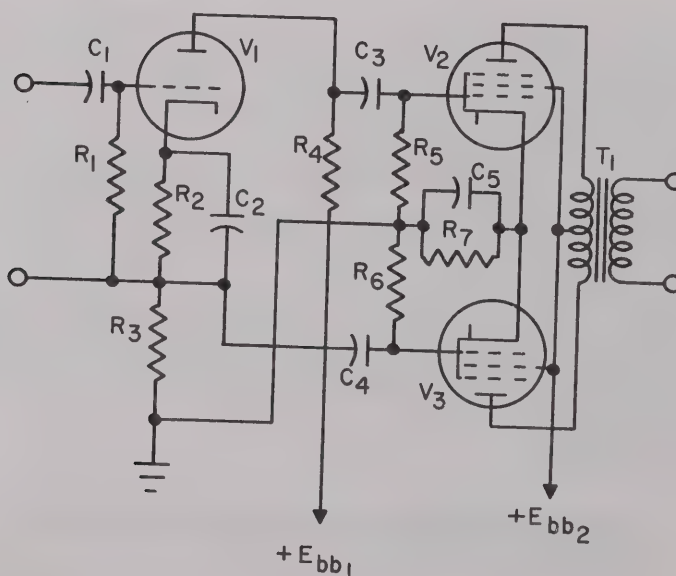

Figure 23
A typical circuit of a **SPLIT PLATE LOAD PHASE INVERTER** is shown in Figure 23. The load resistance of input tube V_1 is divided into two parts: R_4 in the plate section, and R_2 in the cathode section. Resistor R_2 and capacitor C_2 provide the grid bias for tube V_1 .
The signal voltages applied to the grids of tubes V_2 and V_3 are 180° out-of-phase, and therefore, their plate signal voltages are also 180° out-of-phase for proper push-pull operation. When using beam power tetrodes or pentodes, the screen grids are connected directly to $+E_{bb2}$ at the output transformer primary center tap, as shown in Figure 23.
59. In the circuit shown in Figure 23, the cathode load resistor of V_1 is (a) R_2 , (b) R_3 , (c) R_4 , (d) R_1 .